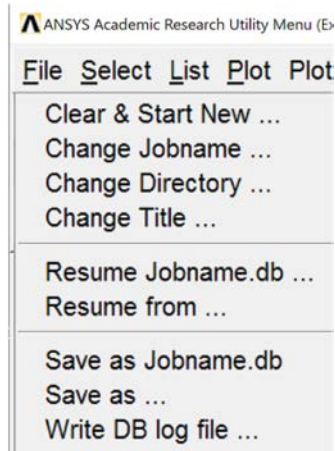

Figure 2-1-3 Saving and Resuming from the Utility Menu.
- Utility Menu > File > Clear and Start New... (Figure 2-1-3)